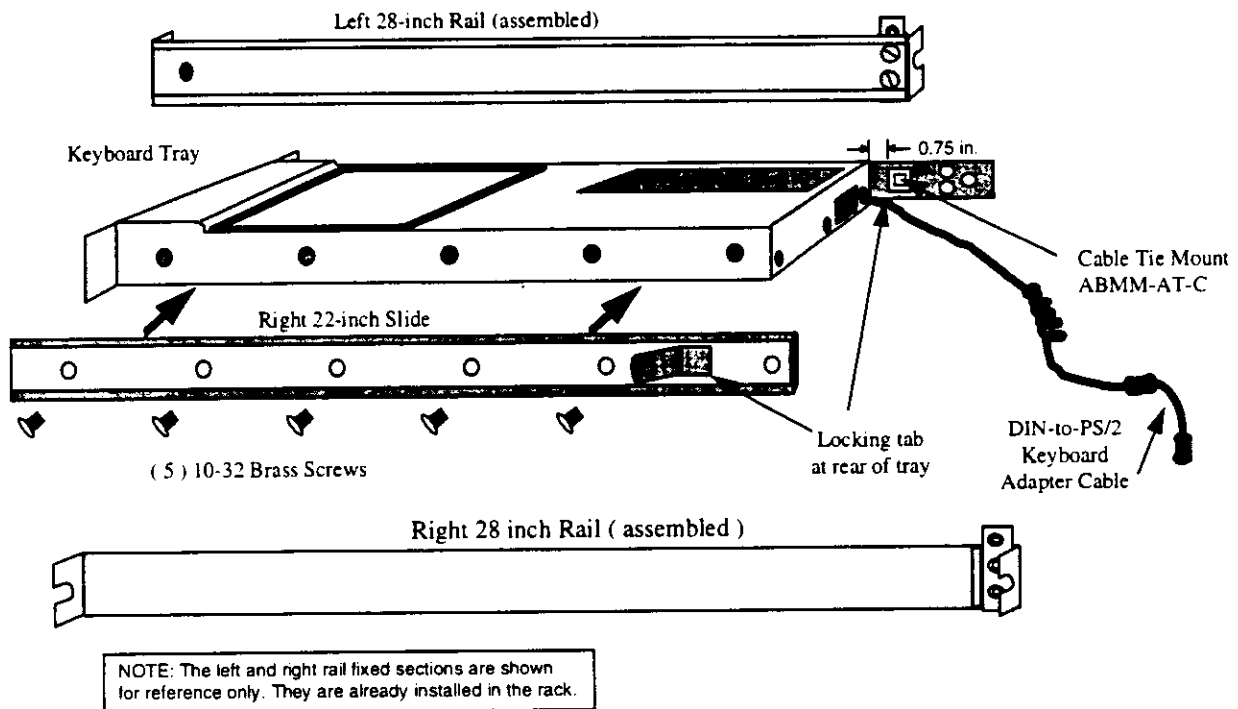

Figure 2-4. Keyboard Tray Assembly
- g. Attach the right slide to the right side of the keyboard tray using five of the 10-32 screws. Locate as shown in Figure 2-4.
- i. Attach the left slide to the left side of the keyboard tray using five of the 10-32 screws. Locate as shown in Figure 2-4.
- j. Clean the rear section of the left slide at the location of the adhesive-backed cable tie mount with isopropyl alcohol as shown on Figure 2-4.